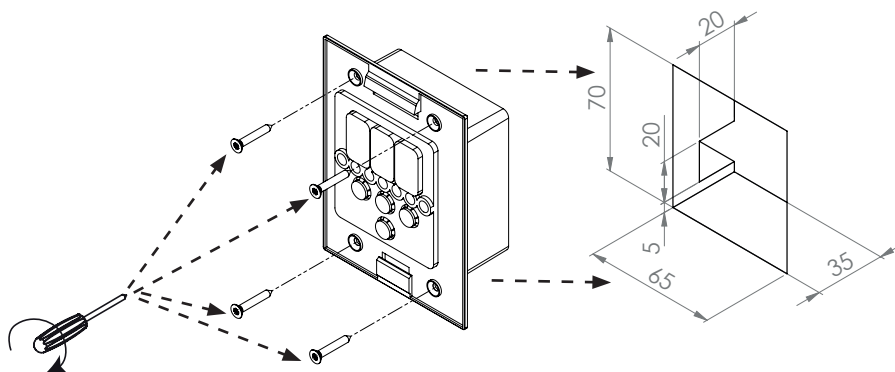
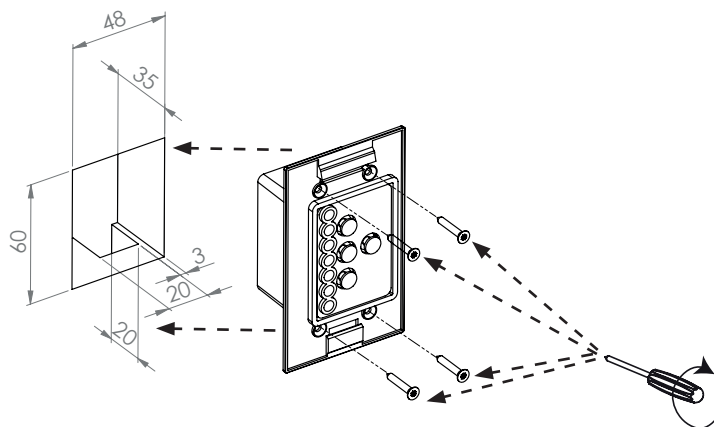

Fig. 5 Installing the Pro D control panel
Fig. 6 Installing the control panel additional output (optional)
1. Cut out the 70 x 65 or 60 x 48 mm recess using a jigsaw, for example (see **Fig. 5** and **Fig. 6**).